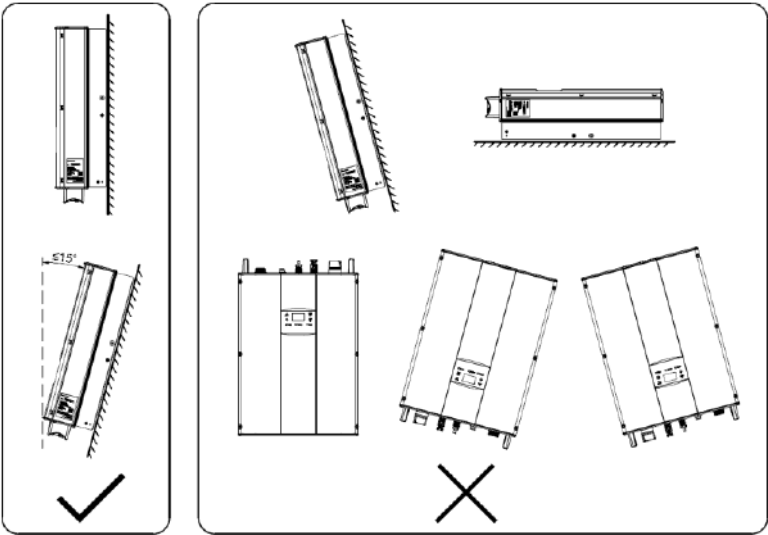

Figure 4.4 Installation position of the inverter
- (4) The ambient temperature of installation should be $-25^{\circ}\text{C}\sim 60^{\circ}\text{C}$.
- (5) The installation site should be away from electronic devices which can generate strong electromagnetic interference.
- (6) The inverter should be installed on firm and solid surface such as wall surface and metal bracket.
- (7) The installation surface should be vertical to the horizontal line, as shown in Figure 4.4.
- (8) The installation should ensure that the inverter is reliably grounded, and the material of grounded metal conductor should be consistent with the metal material reserved for the grounding of the inverter.
As shown in the Figure 4.4, the installation of the inverter should be vertical to the horizontal surface.